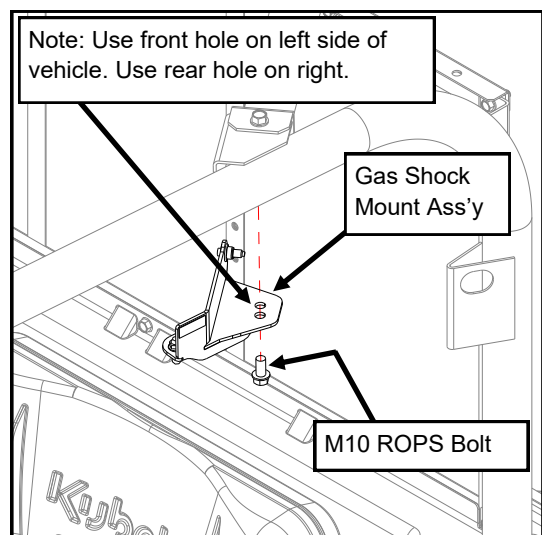

Fig. 11
11. Remove lower ROPS bolt (M10) from left end of ROPS upper rear cross member. Save for re-use. (see fig. 11)